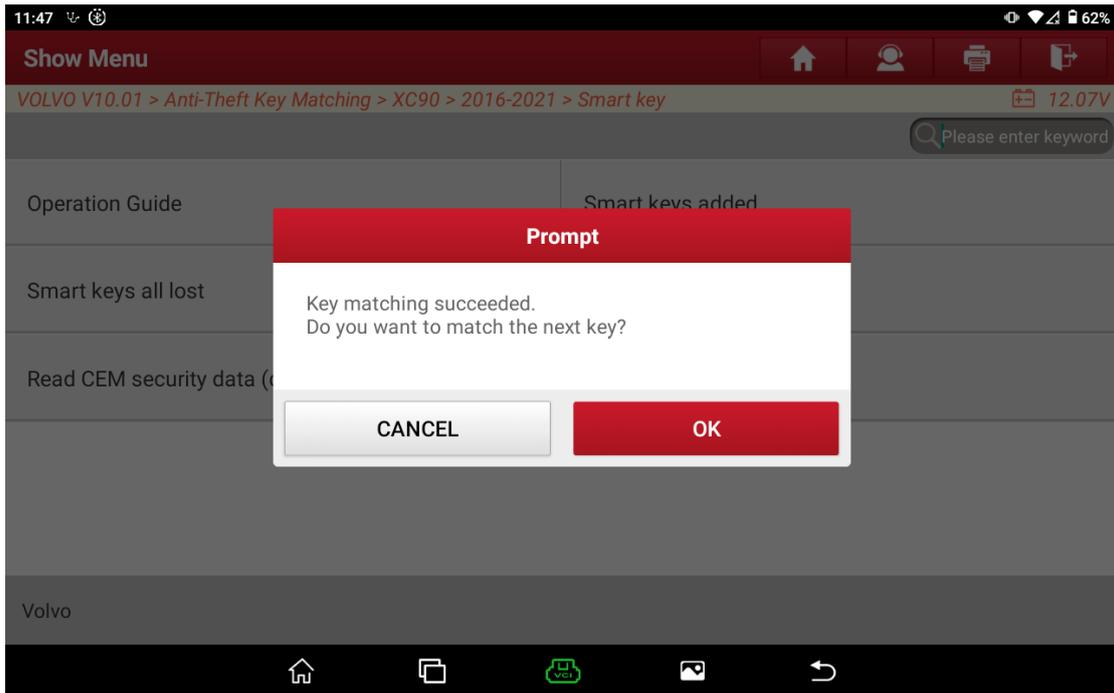
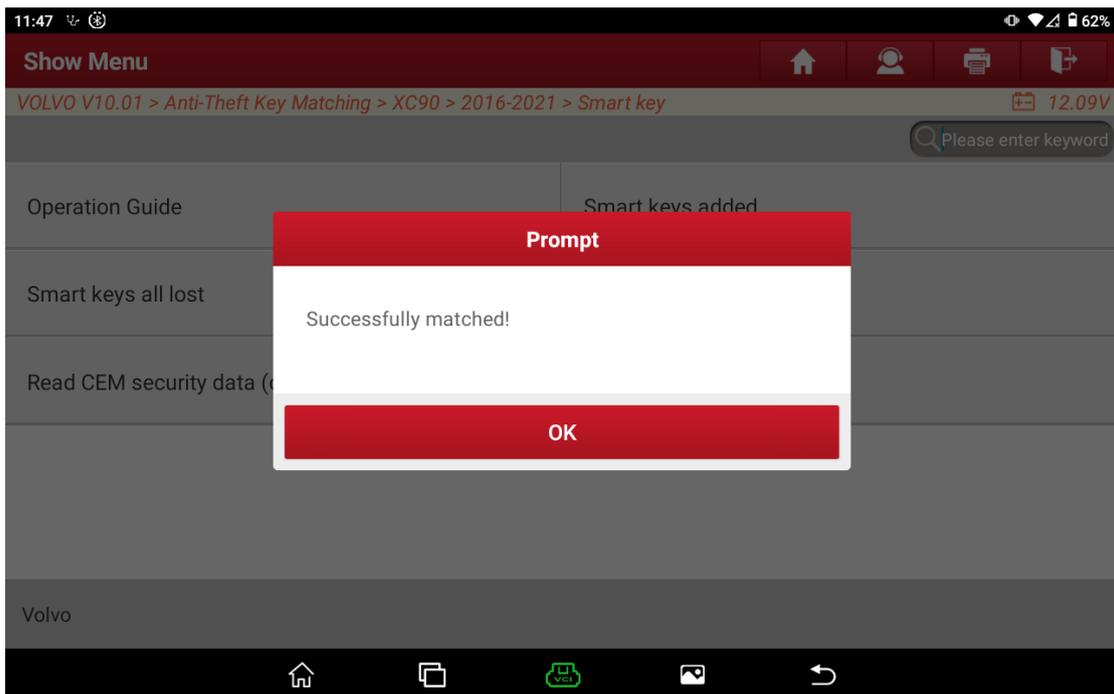

Figure 28
Figure 29
- 6) Wait for the key to be matched. If the key is matched successfully, a message will be displayed indicating that the key is matched successfully. If you need to continue to match the new key, click [OK] and perform Step 5). If not, please click [CANCEL] to exit (See Figure 28, Figure 29)